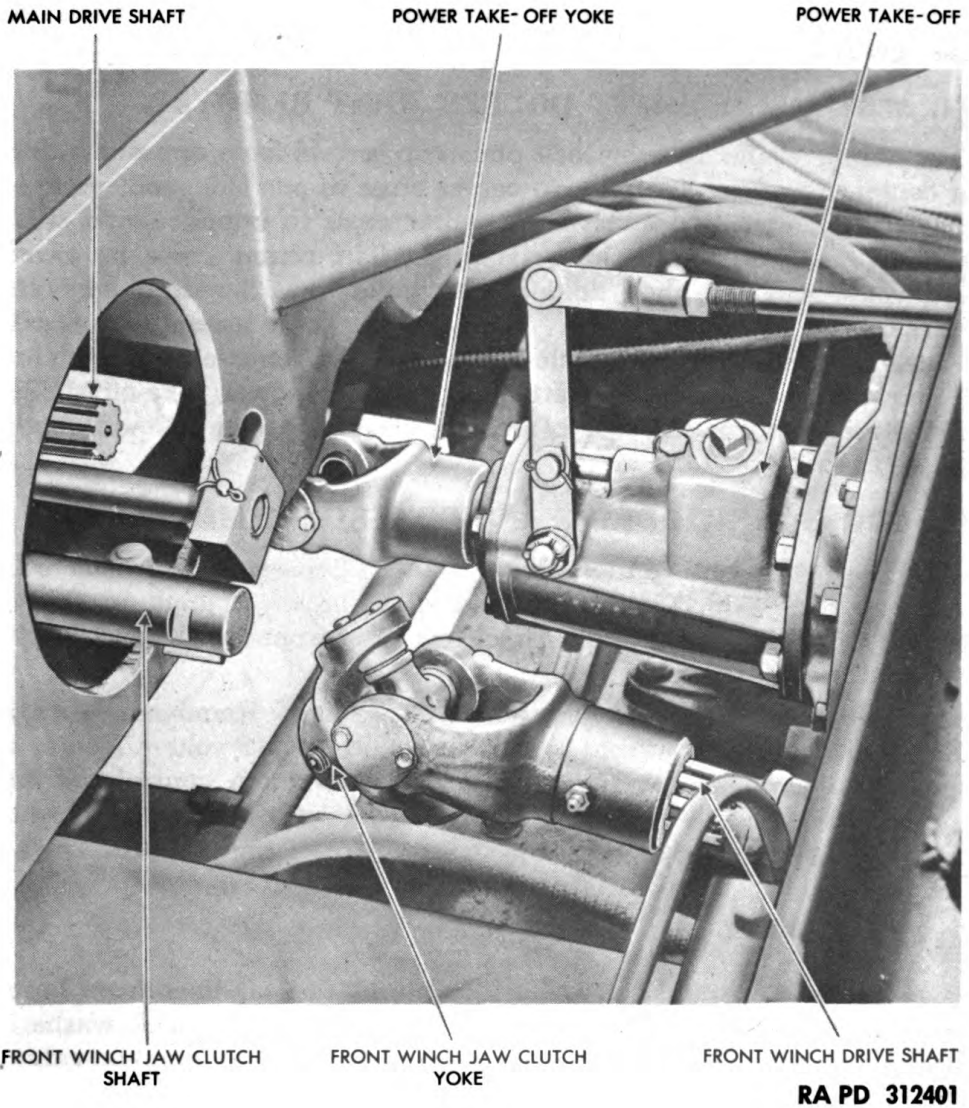

Figure 6 - Main Drive Shaft and Front Winch Shaft Disconnected
a. Remove four bearing lock plate cap screws from opposite sides of center cross (fig. 23). Drive center cross to one side, and remove the bearing assembly. Drive the center cross to opposite side, and remove opposite double joint bearing. Tilt center cross to clear end yoke boss and slide double joint yoke toward rear of vehicle onto main drive shaft spline. Slide double joint assembly toward front of vehicle until yoke is clear of spline, and remove from vehicle. Remove cotter pin and nut attaching yoke to power take-off shaft, and drive yoke toward rear of vehicle clear of power take-off shaft (fig. 6).
a. **Remove Front Winch Drive Shaft.** Loosen socket head set screw in front winch end yoke, and slide universal joint assembly toward front of vehicle until it is clear of the front winch jaw clutch shaft (fig. 6).